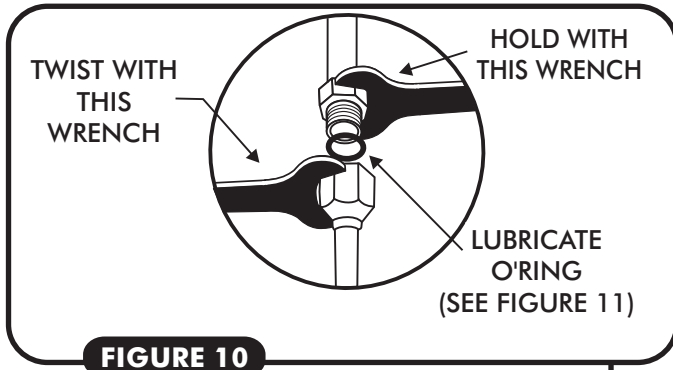

FIGURE 10
- ☐ INSTALL THE #6 AND #8 CONDENSER LINES THROUGH 1 1/4" HOLE. LUBRICATE O-RINGS (SEE FIGURES 10 & 11, PAGE 12) AND CONNECT LINES TO CONDENSER
- ☐ ON A WORK BENCH, INSTALL EVAPORATOR REAR BRACKETS, AND INSTALL EVAPORATOR HARDLINES WITH PROPERLY LUBRICATED O-RINGS. (SEE FIGURE 17, PAGE 18, AND FIGURES 10, 11 & 12, PAGE 12.)
- ☐ LOCATE THE #8 COMPRESSOR ALUMINUM HARDLINE. LUBRICATE (1) #8 O-RING AND INSTALL ON THE FEMALE O-RING END. CONNECT THIS LINE TO THE #8 DISCHARGE PORT ON THE COMPRESSOR, AND TIGHTEN. SEE FIGURES 10 & 11, PAGE 12.